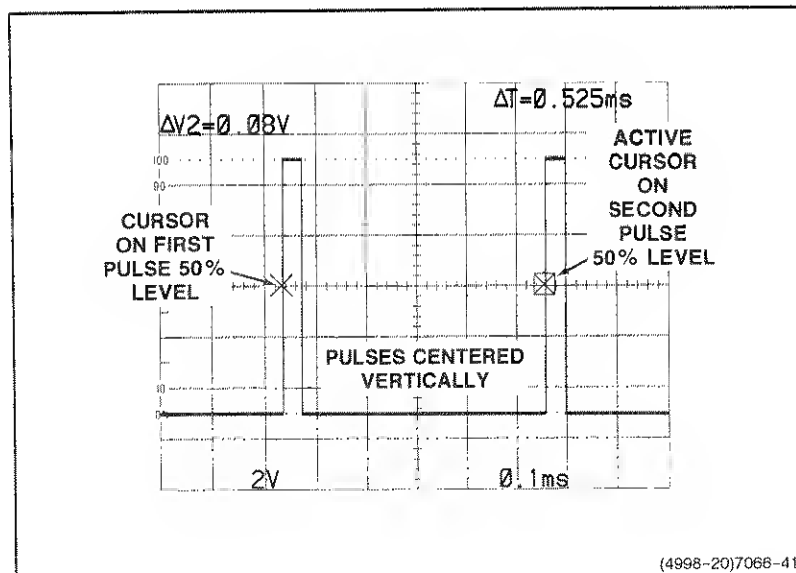

Figure 6-20. Time difference between repetitive pulses.
8. Push in the CURSORS knob (SELECT C1/C2) to select the other cursor and use the CURSORS control to move the active cursor to the 50% level on the leading edge of the second pulse (see Figure 6-20).